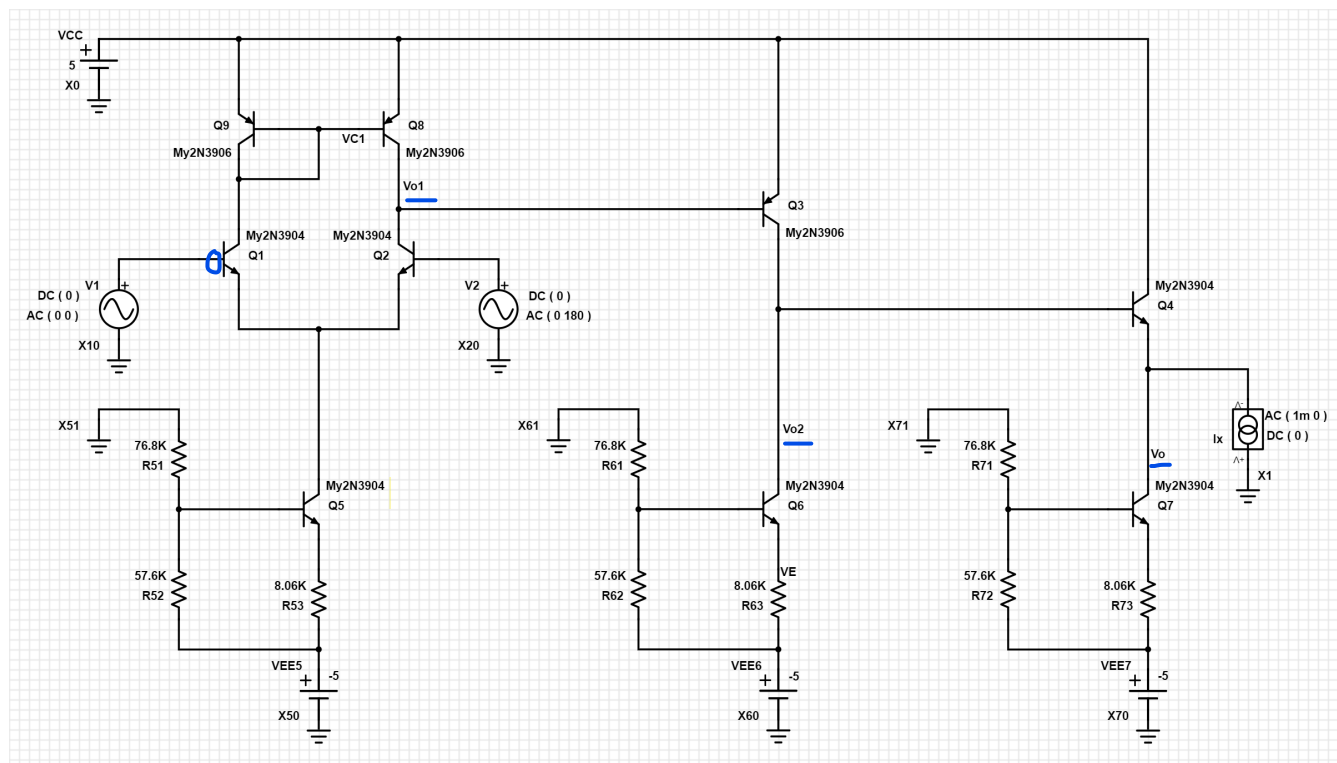

Fig. 1 Schematic diagram of the directly coupled (DC), multi-stage operational amplifier
- 1.1 In PartSim (LTspice or PSpice), construct the Op-Amp, as shown in Fig. 1, using the common-emitter (CE) amplifier from Lab 2, the common-collector (CC) amplifier, and differential amplifier with a current mirror load from Lab 3. Here I_x is a current test source used to characterize the output resistance of the Op-Amp.
- 1.2 **Voltage Gain:** Set the DC values of V_1 and $V_2 = 0$ V and their AC amplitude 1 mV. Set the DC and AC values of the test current source I_x to zero. For the differential mode signal, set the phases of the AC signal V_1 and V_2 to be 0° and 180° , respectively, as shown in Fig. 1. In this setting, the differential-mode signal $v_{id} = V_1 - V_2 = 1$ mV $- (-1$ mV) = 2 mV. Conduct AC analysis to obtain the base current i_{b1} of Q1, the voltages V_{o1} , V_{o2} , and V_o at the base of Q3, the base of Q4, and the emitter of Q4, respectively. Set the sweep type in DEC with Start Frequency = 100 Hz, Stop Frequency = 100 kHz, and Total Points Per Decade = 101. Choose REAL for magnitude unit and degree (DEG) for phase unit. Record the simulated magnitudes and phases of i_{b1} , V_{o1} , V_{o2} , and V_o in the sheet “Step 1.2” of the Excel file “Lab 4 – Feedback Circuit.xlsx”.
- 1.9 Based on Fig. 1, construct the measurement setup for an operational amplifier using the common-emitter (CE) amplifier from Lab 2 and the common-collector (CC) and differential amplifiers from Lab 3.
- 1.11 **DC Offset Voltage:** Based on Fig. 1, connect Waveform Generator Channel 1 (W1) to the input V_1 (the base of Q_1), Waveform Generator Channel 2 (W2) and **Scope Ch. 1 Positive (1+)** to the input V_2 (the base of Q_2), and **Scope Ch. 2 Positive (2+)** to V_o (the emitter of Q_4). In WaveForms, click Workspace, open the provided workspace script “Lab4_Step1.11.dwf3work” and press Run. This script will set the offset voltage of Wavegen 1 (W1) to 0 V and gradually change the offset voltage of Wavegen 2 (W2) until the output voltage of the Op-Amp switches around 0 V. Record the measured offset voltage for V_+ (or Q_2) in the sheet “Step 1.11” of the Excel file “Lab 4 – Feedback Circuit.xlsx”.